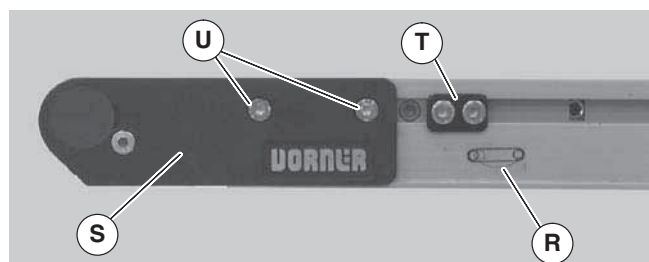

Figure 5
2. On tension end of the conveyor, identified with  a label (Figure 5, item R), push in head plate assembly (S): On both sides of conveyor, loosen and move cam tracking assemblies (T) (if equipped) away from head plates, then loosen fastening screws (U) and push head plate assembly inward.
7. If equipped with cam tracking assemblies (Figure 5, item T), reposition and adjust belt tracking. Refer to “Conveyor Belt Tracking” on page 14.